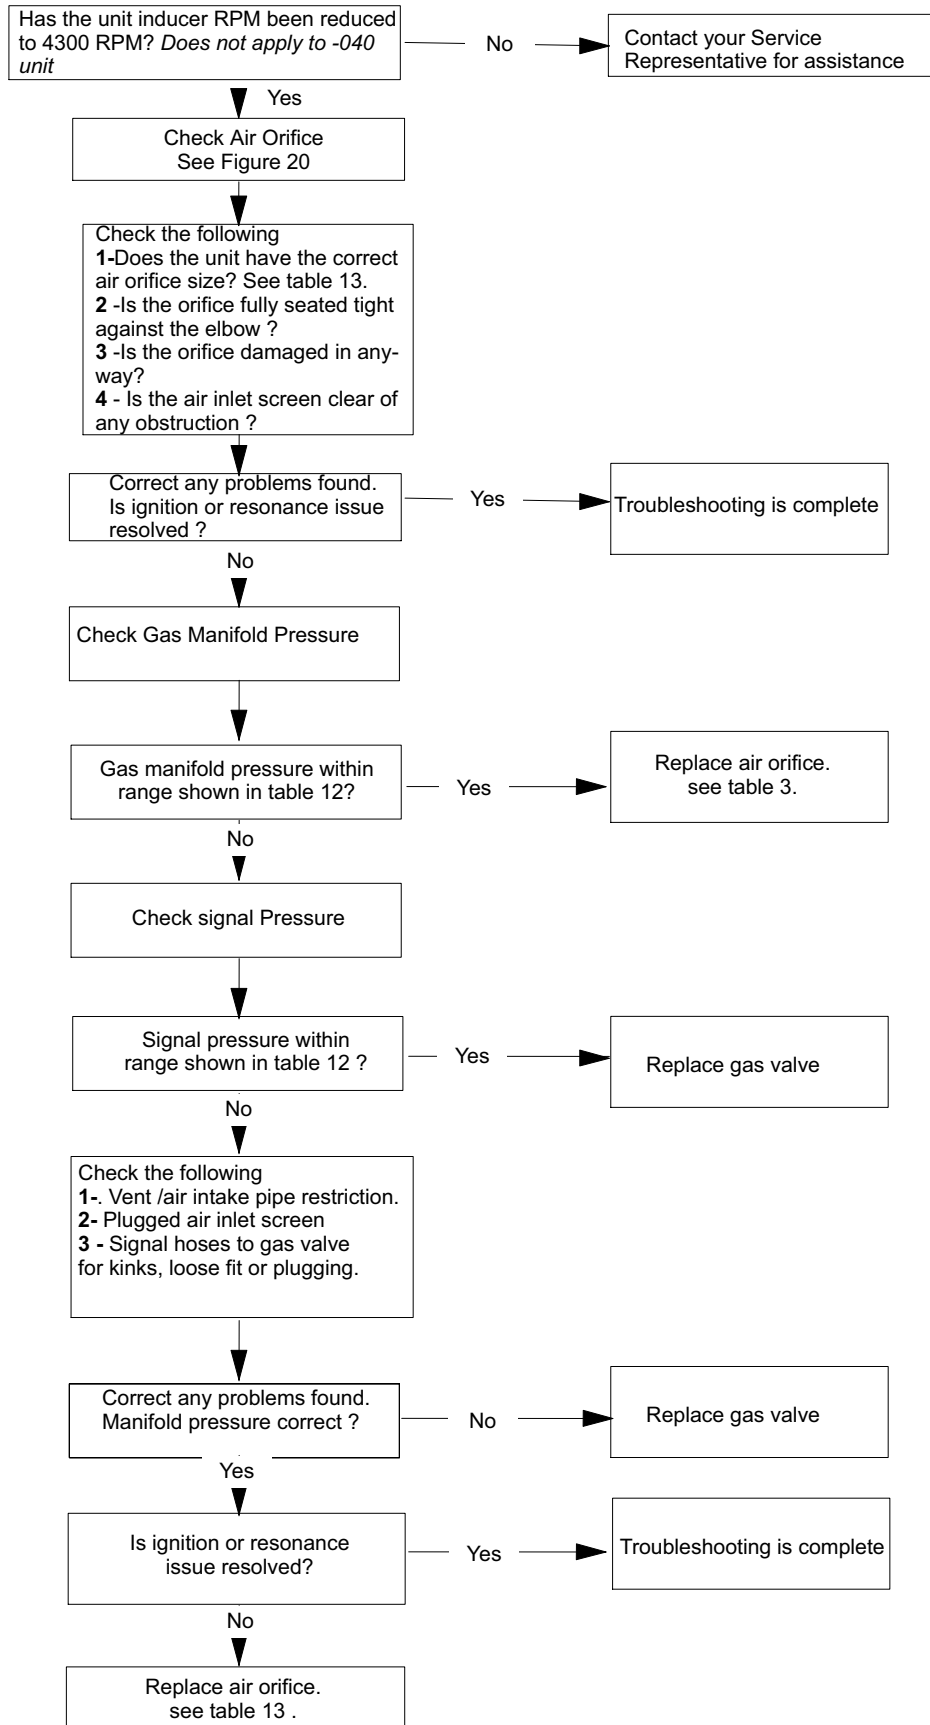

FIGURE 22
- 9 - Repeat manifold and signal pressure check. If unit ignites and manifold and signal pressure are correct, move on to combustion check. If unit still does not ignite or ignites with loud resonance go to Troubleshooting figure 22.